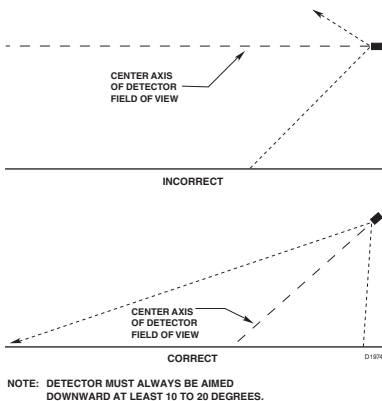

Figure 1—Detector Orientation Relative to Horizon
- The detector should be aimed downward at least 10–20 degrees to allow lens openings to drain. See Figure 1. **The detector should be positioned so that its FOV does not cover areas outside the area that requires flame detection monitoring.** This will minimize the possibility of false alarms caused by activities outside the area requiring protection.
(See Figure 1 for Correct Detector Orientation.)